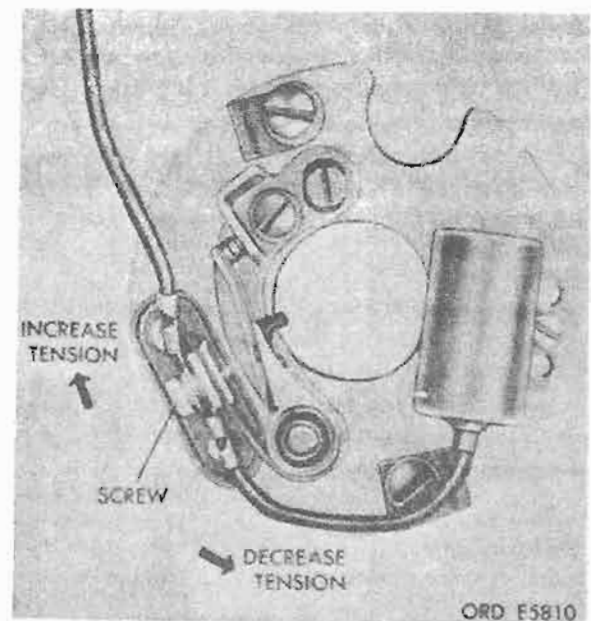

Figure 6-13. Adjusting distributor point tension.
b. Adjust tension by loosening movable contact arm terminal screw and sliding spring in or out as necessary. Tighten screw and check tension again (fig. 6-13).